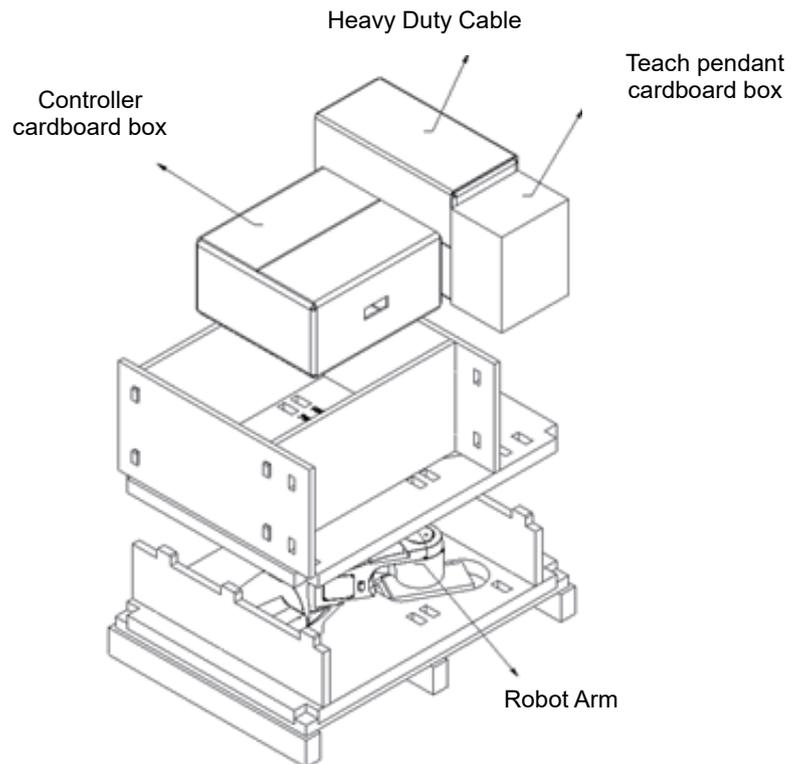

Figure 2.3 Package removal
4. Once the robot is transported to the installation location, please open the carton and remove the robot, controller, cables and handheld teaching pendant (optional) carefully, as shown in Figure 2.3 below.